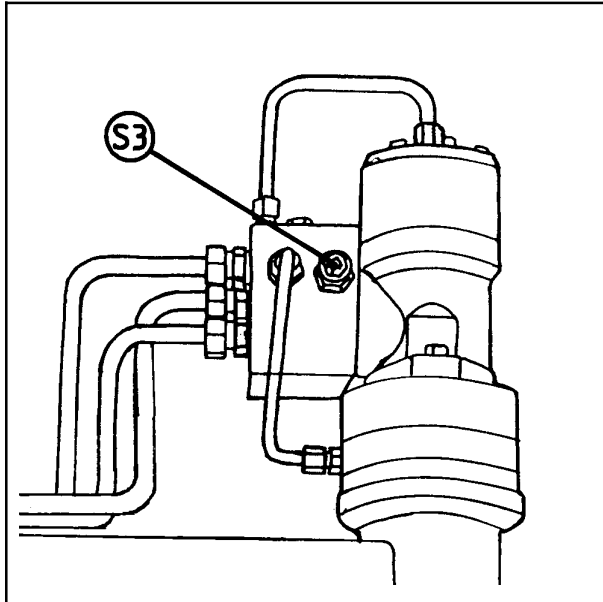

Fig. 14-3
- b) **Safety valve on the minus side.** (S3, fig. 14-3).
- b) The safety valve, (S3), can be leak, so that the oil is passing by the wrapping arm motor. (Fig. 14-3). Dismantle and try out if the sliding shaft can move freely.